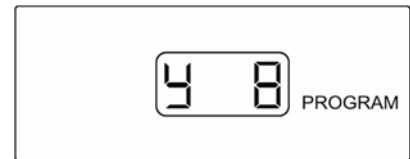
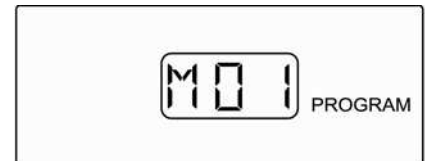

Figure 2-11
Figure 2-12
- 1) To adjust the Year (Y), Press and hold the “S” button for 3 seconds until the first digit begins to flash (See Figure 2-11). Use the “Up” and “Down” arrows to adjust the numeric value corresponding to the last two digits of the calendar year. The “Left” and “Right” arrows are used to change the digit being adjusted. Once the Year (Y) has been entered, press and hold the “S” button for 3 seconds to proceed to the Month (M) setting (See Figure 2-12).